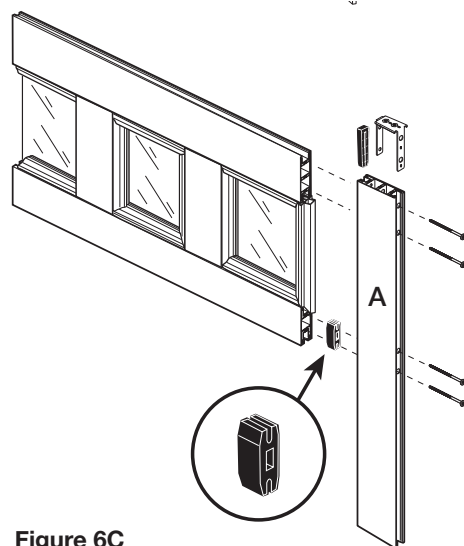

Figure 6C
Line up the 4 screws (Z) inserted through the Stile with the extrusion holes in the top rail and the bottom transom rail and tighten all 4 screws until flush and secure. See Figure 6C